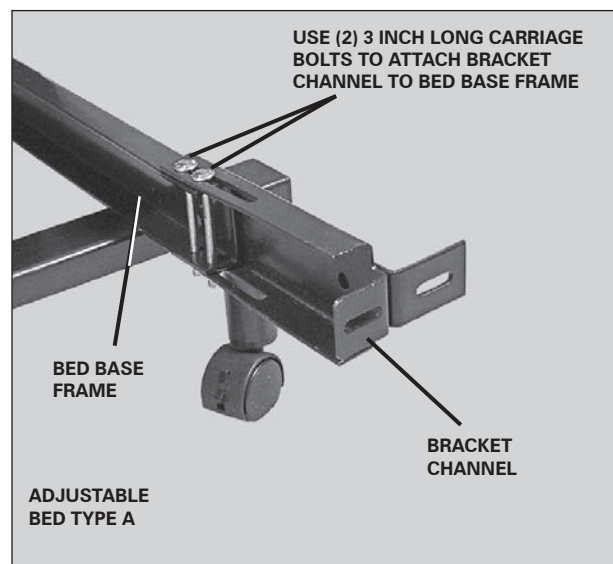
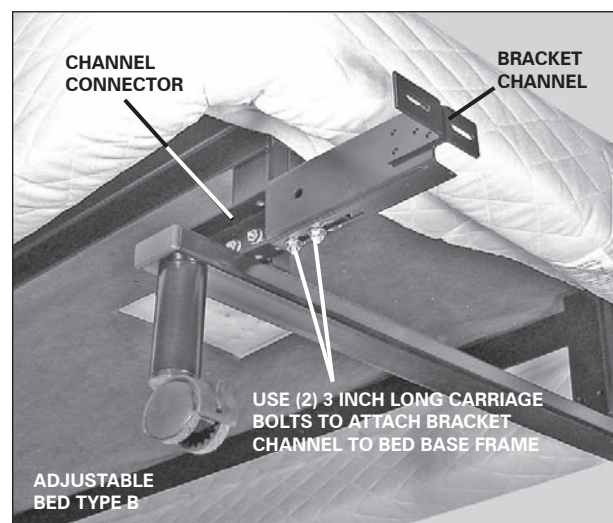

FIGURE 21: Bed base Type A bracket channel attachment.
FIGURE 22: Bed base Type B bracket channel attachment.
- e. Using (2) 3 inch long carriage bolts/nuts, attach (1) headboard bracket channel to bed base frame (bed base Type A) (**FIGURE 21**) or (1) channel connector (bed base Type B) (**FIGURE 22**). Hand tighten bolts/nuts (loosely) to allow adjustment of the headboard bracket channels.